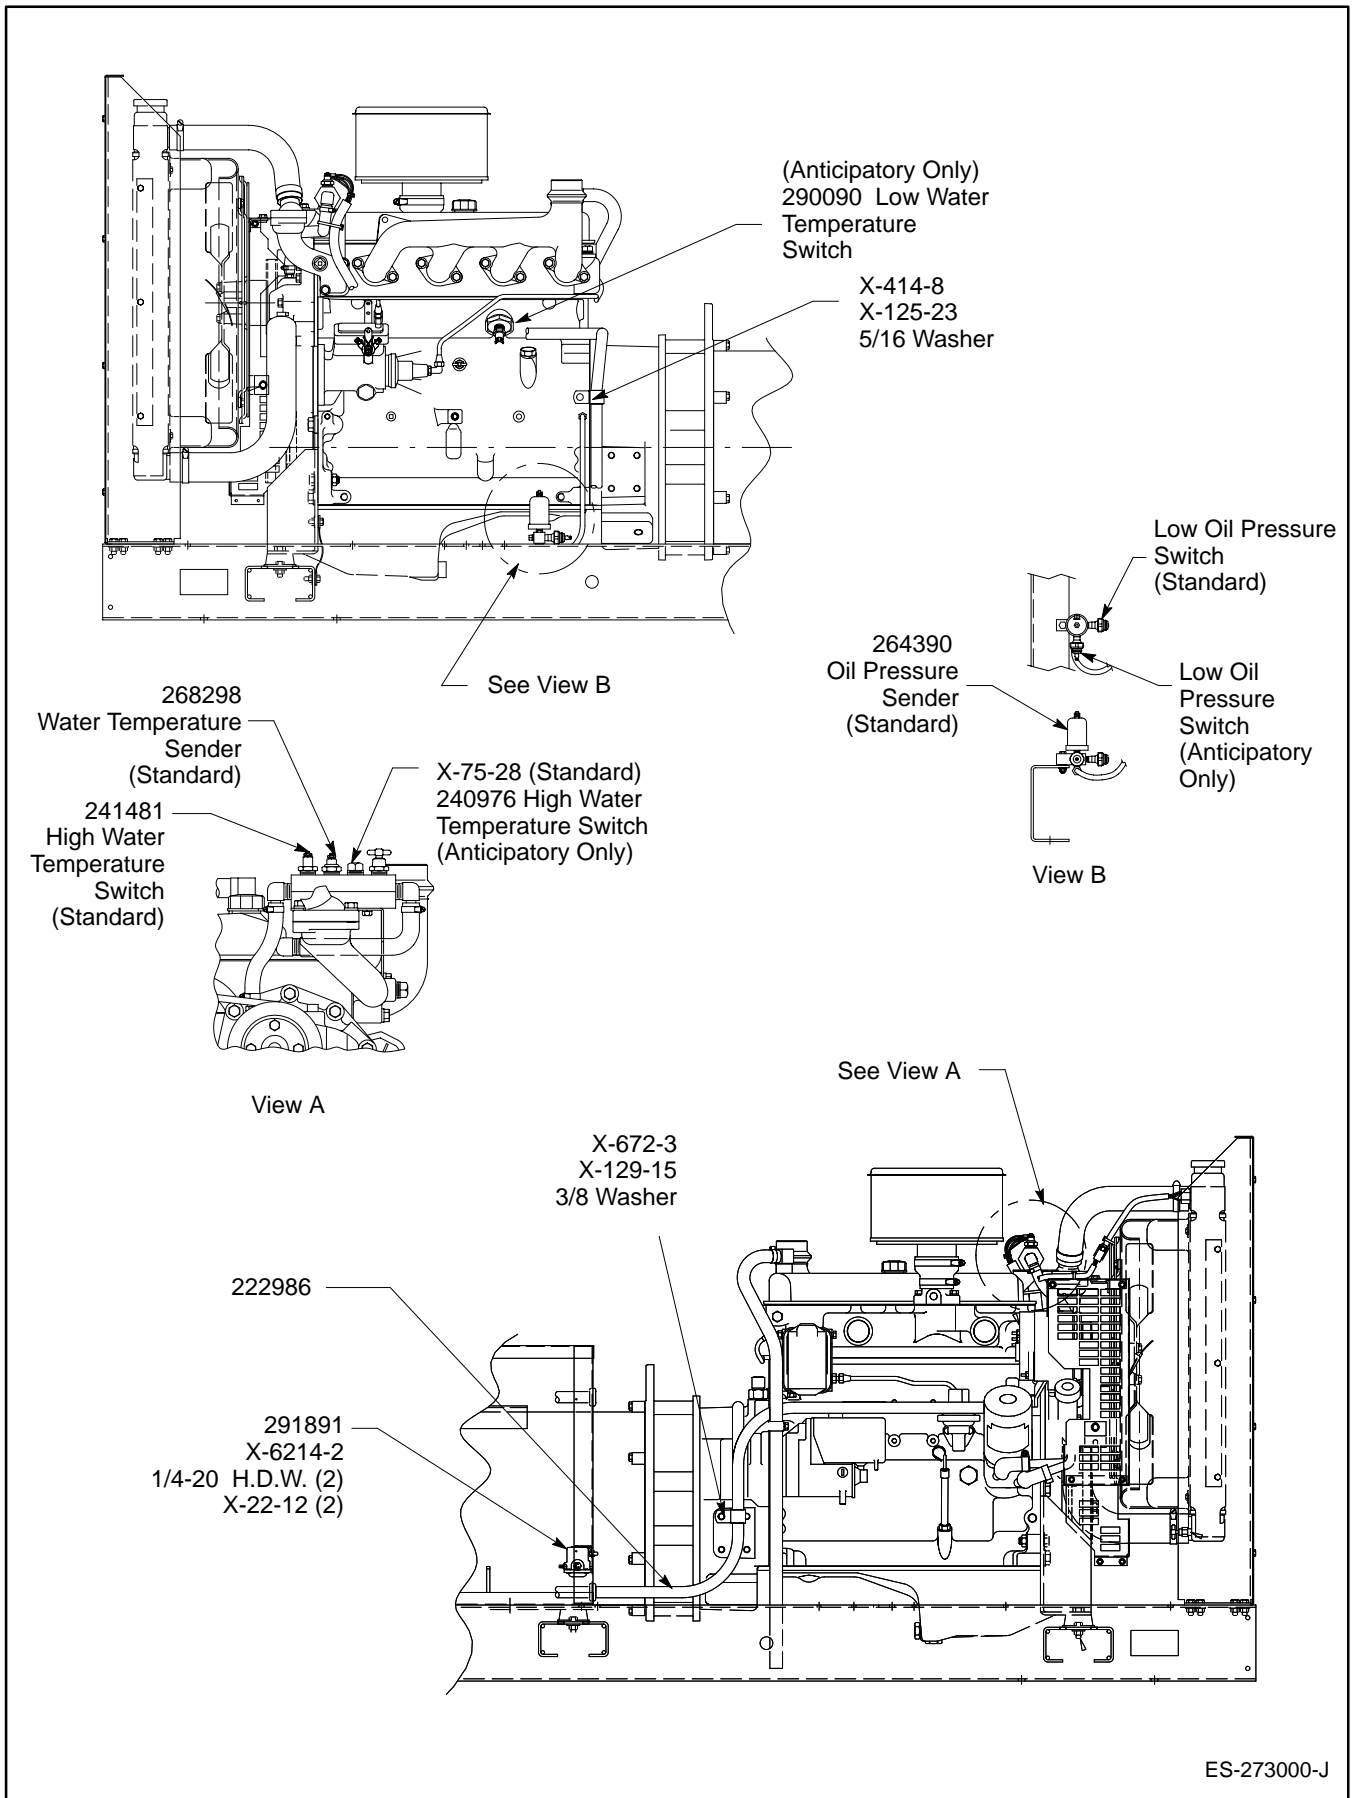

Figure 1. 20-60ROZJ Engine Wiring Harness Connections
3. Remove starter solenoid from junction box and relocate it to the same position inside the junction box and reconnect leads. See Figure 1.
4. Install engine wiring harness according to appropriate wiring diagram in generator wiring diagram manual, service manual, or operation manual. Refer to Figure 1 for location and routing of wiring harness.